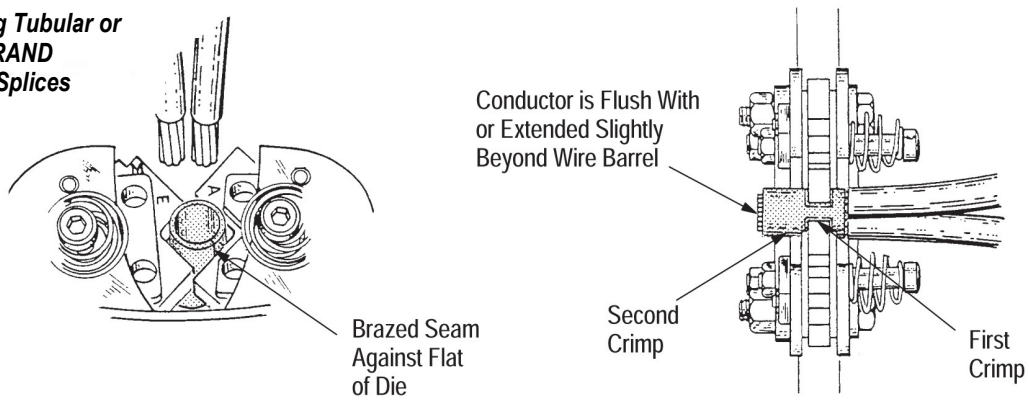

Figure 5
3.4. Performing Dual Crimp on Terminals and Splices With Wire Sizes 2 through 4/0 AWG (Figure 5)
1. Position the end of the terminal or splice wire barrel in the dies as shown in Figure 5.
For best results, position the brazed seam of the SOLISTRAND terminal against one of the "flats" of the dies, as shown in Figure 5. Make sure that the crimps do not overlap or go off either end of the wire barrel.
3.5. Performing Dual Crimp on Butt Splices With Wire Sizes 2 through 4/0 AWG (Figure 5)
For best results, position the brazed seam of the SOLISTRAND butt splice against one of the "flats" of the dies, as shown in Figure 5. Make sure that the crimps do not overlap or go off either end of the wire barrel.
5. Move the butt splice into position for the second crimp, as shown in Figure 5.
1. Position the butt splice for the third crimp, as shown in Figure 5.
5. Move the butt splice into position for the fourth crimp, as shown in Figure 5.
3.6. Performing Dual Crimp on Parallel Splices With Wire Sizes 2 through 4/0 AWG (Figure 5)
NOTE  For best results, position the brazed seam of the SOLISTRAND parallel splice against one of the "flats" of the dies, as shown in Figure 5. Make sure that the crimps do not overlap or go off either end of the wire barrel.